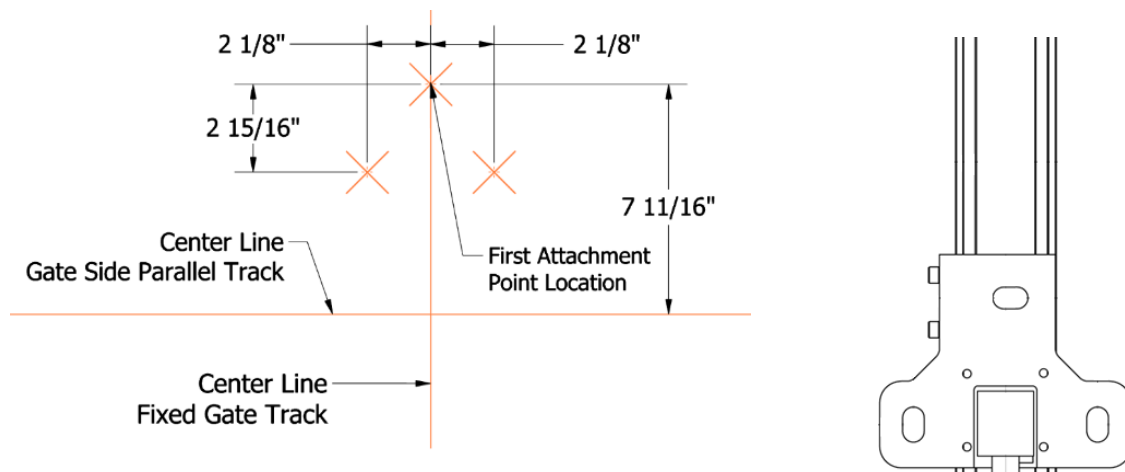

Figure 76: **Figure 76: 1000 lbs Capacity Transition – Three Attachment Points**
- The 1000 lbs capacity transition gate requires three total attachment points—the one noted above is the only one that falls on the center line. Figure 76 shows the location of the additional required attachment points.